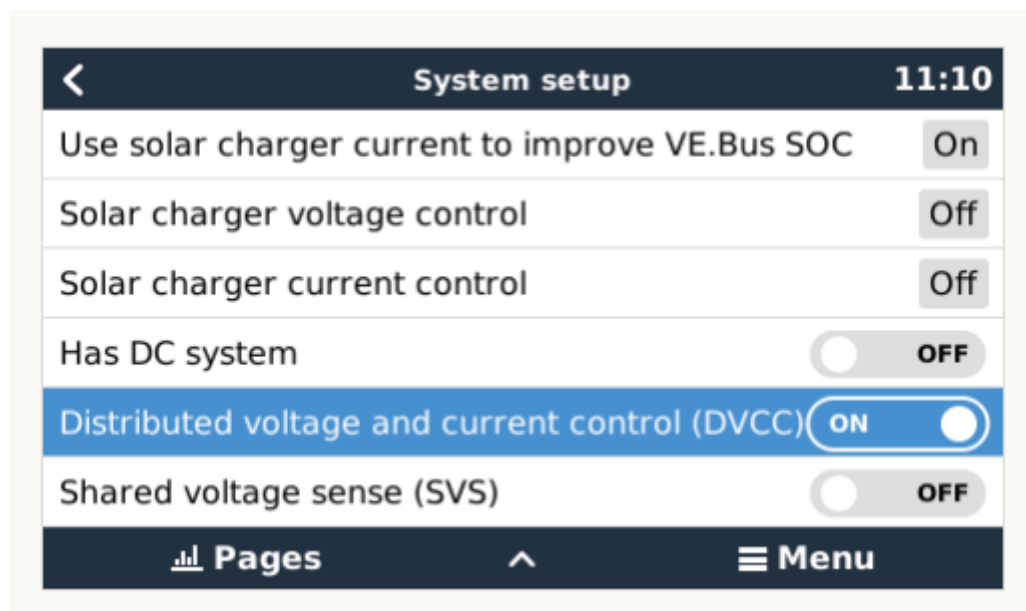

Figure 11: Victron CCGX DVCC on, SVS off
- In the CCGX Setup -> System Settings menu, turn on DVCC (as per the screen shot in fig. 11)
See fig. 11.